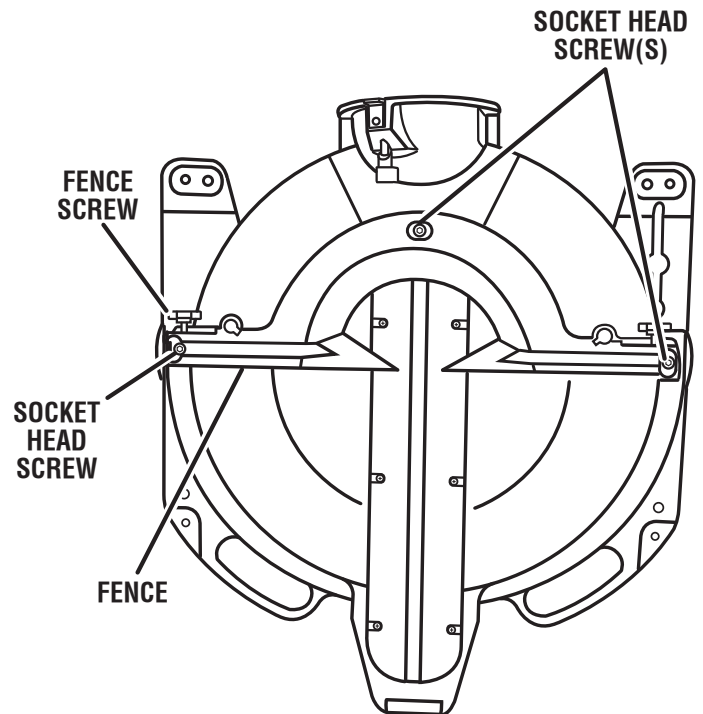

Fig. 20
See Figures 20 - 24.
- Loosen the socket head screws that secure the fence to the miter table. See Figure 20.